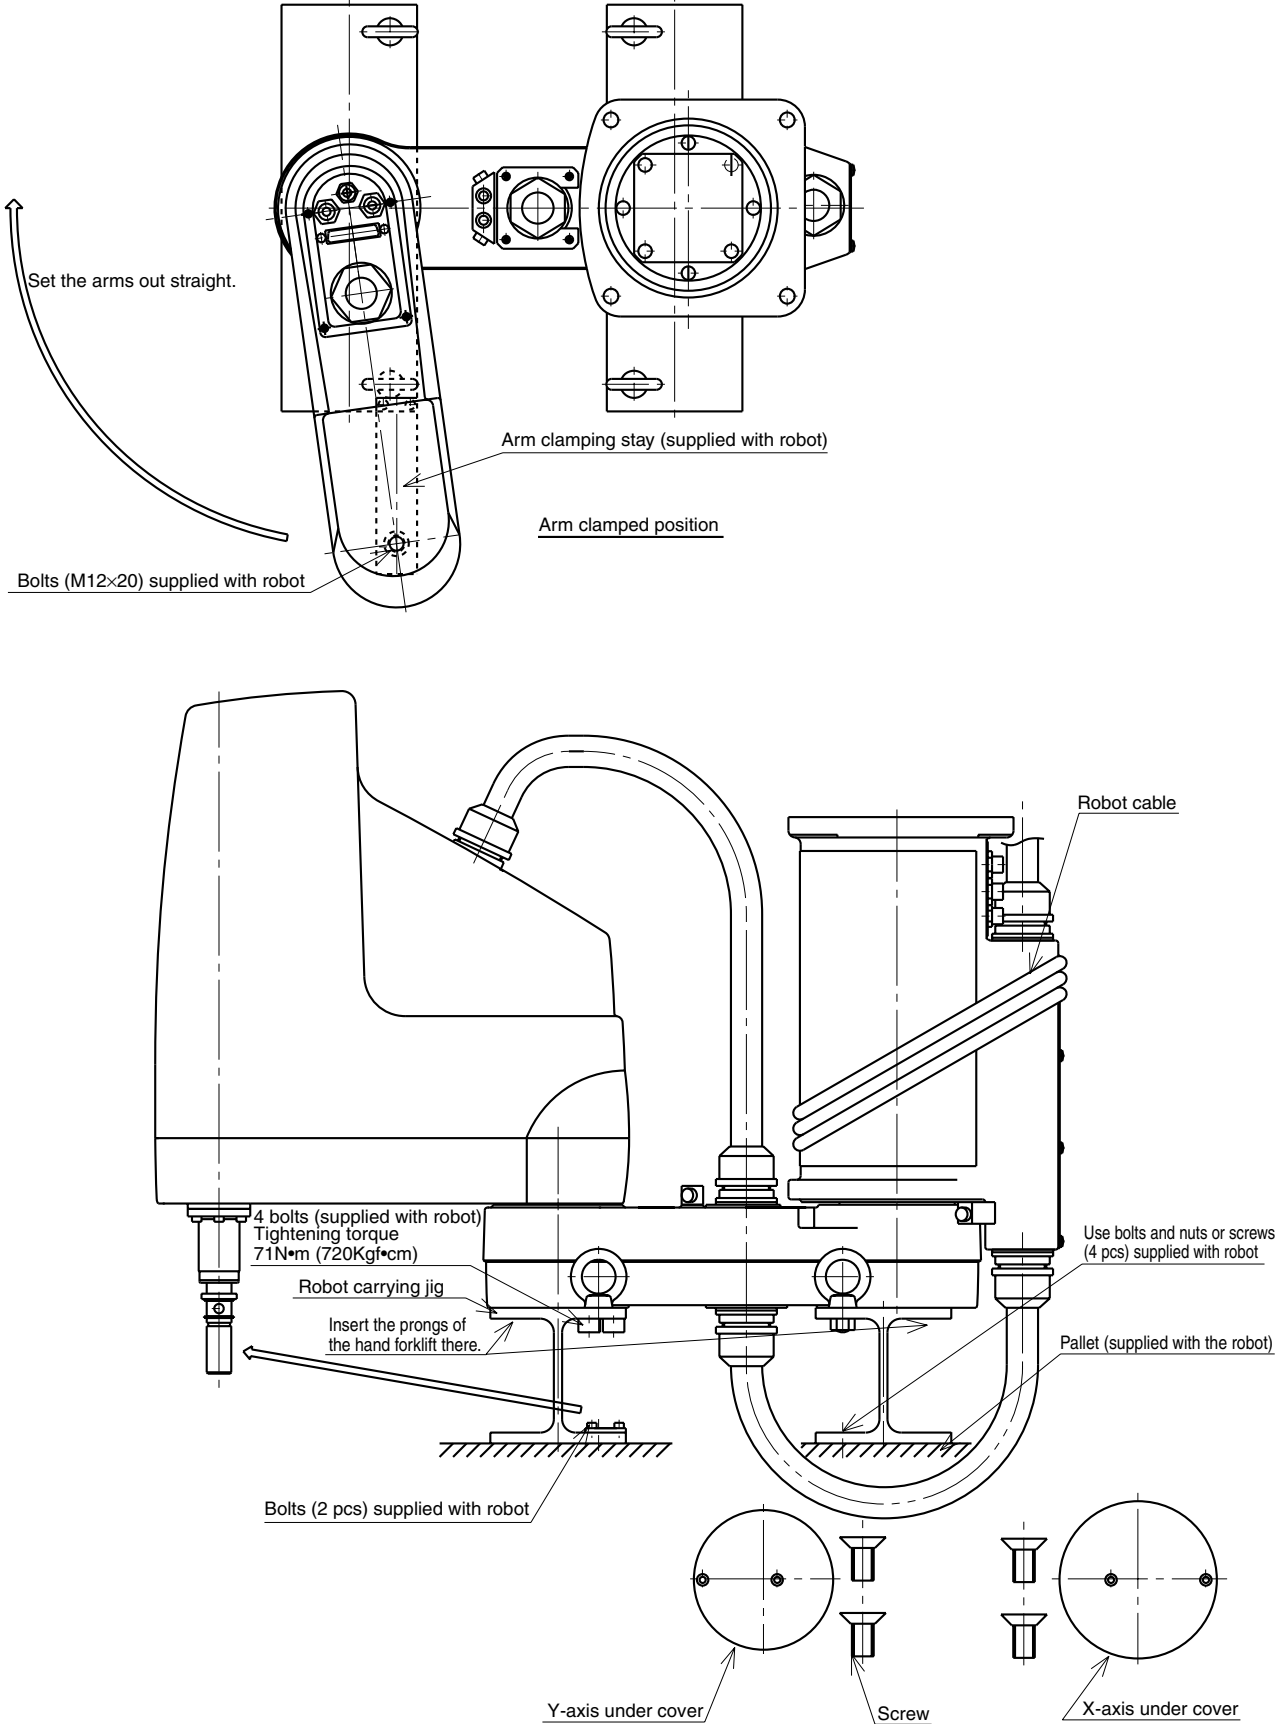

Fig. 2-5
(2) When using the hand forklift (See Fig. 2-5)
- 2) Set the X- and Y-axis arms straight (See Fig. 2-5). If the robot is in the shipped state, remove the spline from the arm clamping stay, and set the X- and Y-axis arms straight. If the arms cannot be folded in the carrying position (see Fig. 2-5) due to the X-axis mechanical stoppers, then remove them.
- 2) Set the X- and Y-axis arms straight (See Fig. 2-5). If the robot is in the shipped state, remove the spline from the arm clamping stay, and set the X- and Y-axis arms straight. If the arms cannot be folded in the carrying position (see Fig. 2-5) due to the X-axis mechanical stoppers, then remove them. (When the robot is shipped, the mechanical stoppers are installed to provide the maximum movement range.)